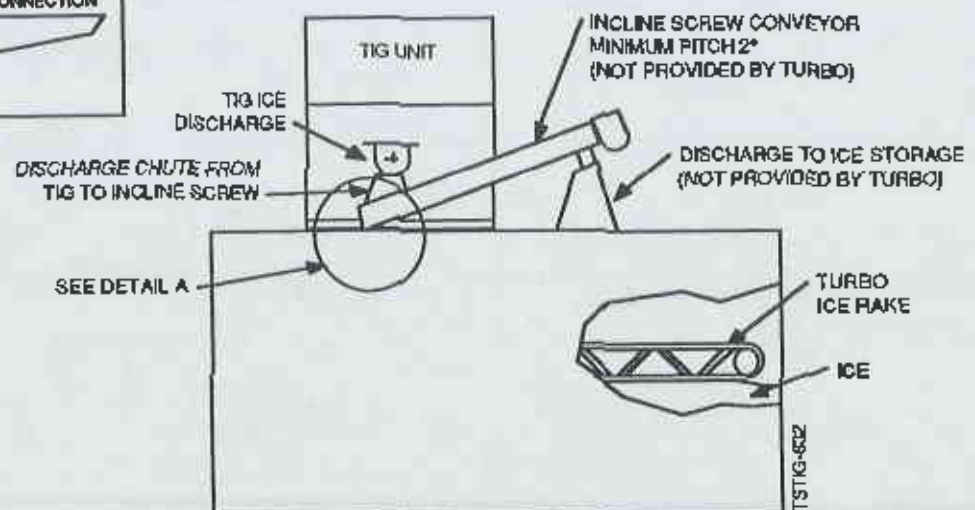

Figure 3-11 Typical Ice Delivery to Storage
All TIG units discharge the ice through a standard nine (9) inch screw conveyor down spout from the end of the unit opposite the outboard condensing unit. If the TIG unit is mounted directly above the ice storage, it discharges into an inclined screw conveyor (not provided by Turbo) prior to delivery into the storage bin. Refer to Figure 3-11.